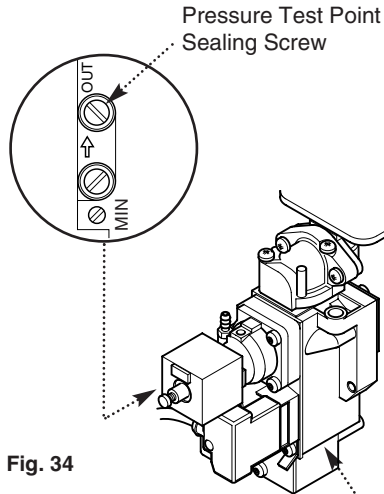

Fig. 34
3. Slacken the pressure test point sealing screw (Fig. 34) on the gas valve and connect a pressure gauge.